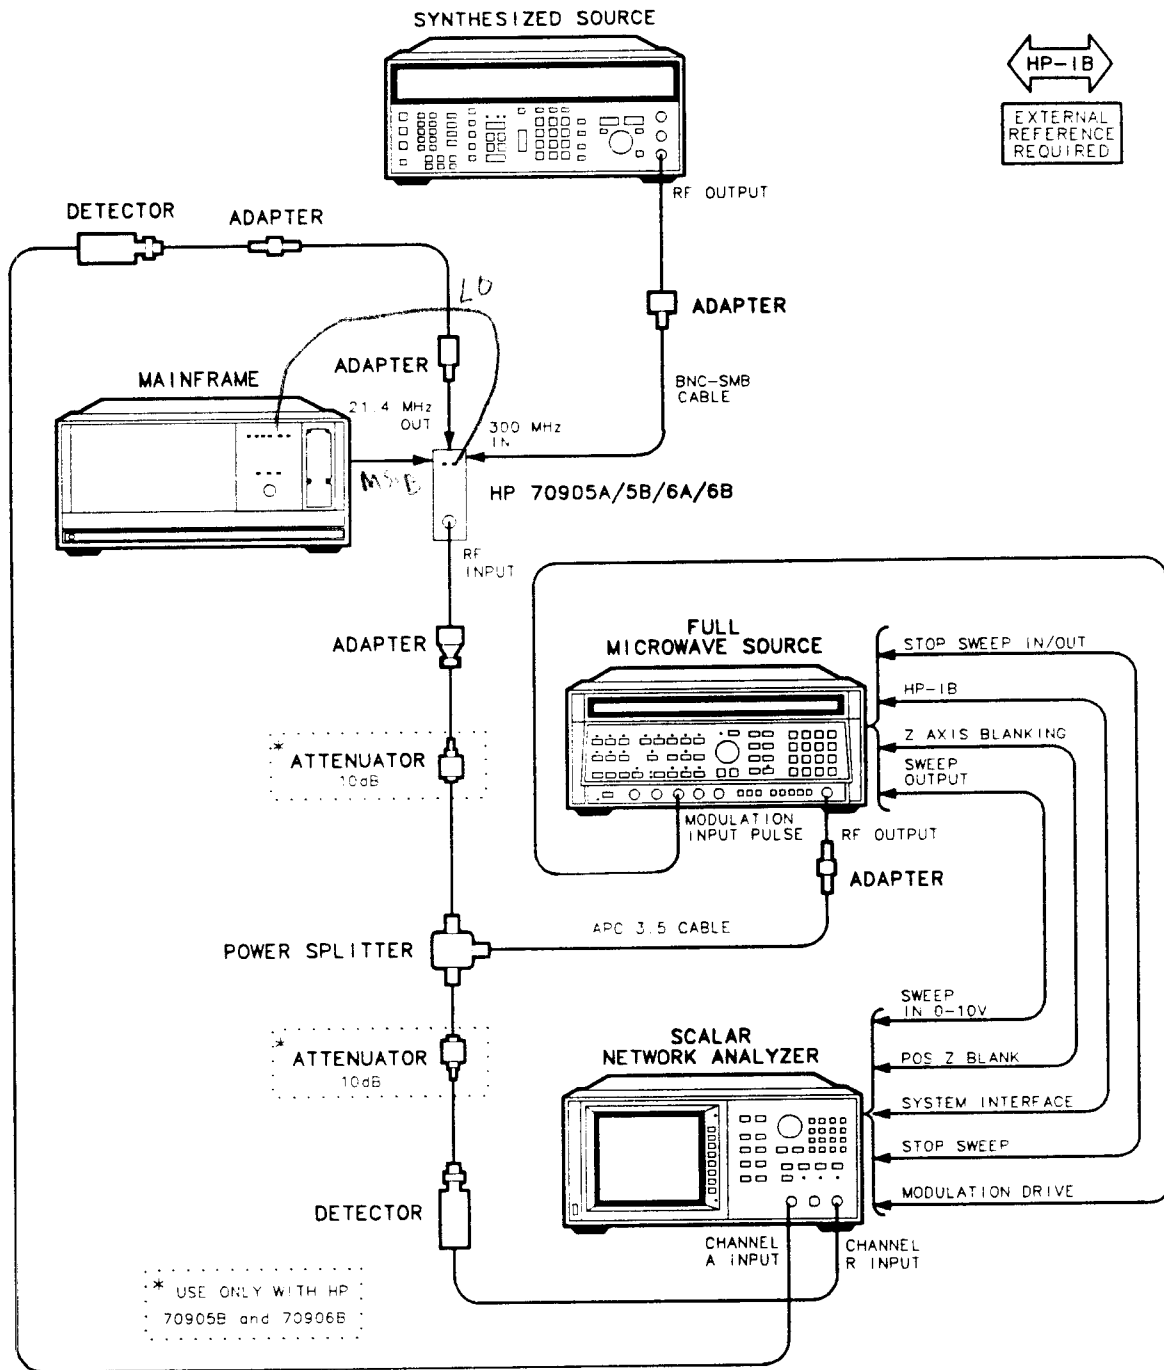

Figure 3-3. MW Flatness Calibration Setup
4. Connect the equipment as shown in Figure 3-3.